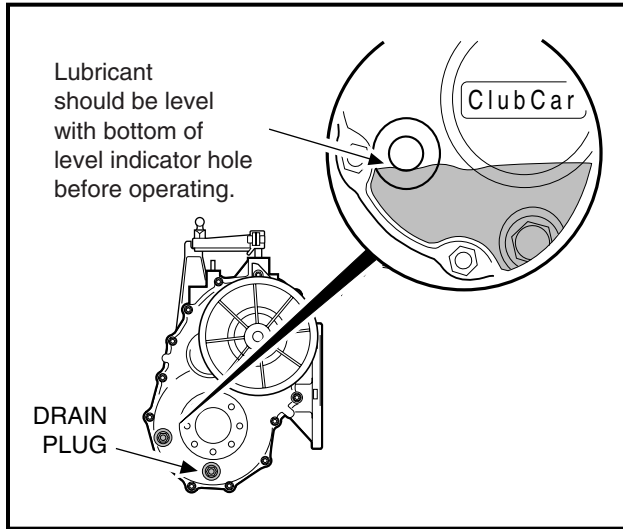

Figure 5-2 Lubricant Fill and Drain Plugs
2. Remove both the top and bottom lubrication port plugs and gaskets. Drain and dispose of the oil properly **(Figure 5-2, Page 5-3). See following NOTE.**